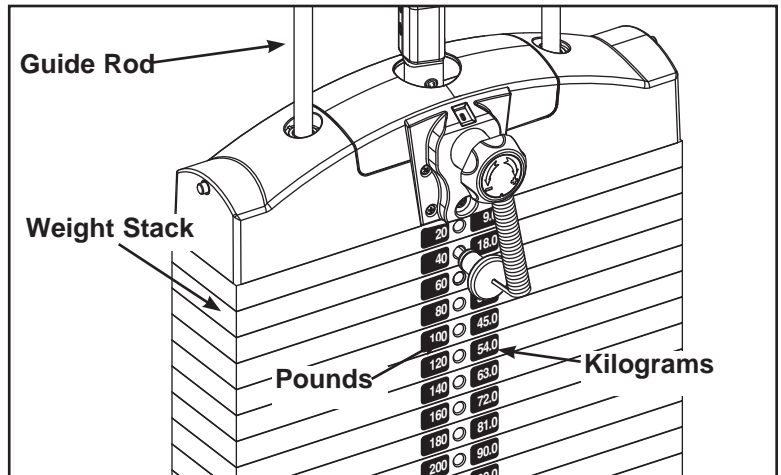

Figure 4
- D. Carefully remove front side, leaving decals adhering to weight plates. See Figure 4.